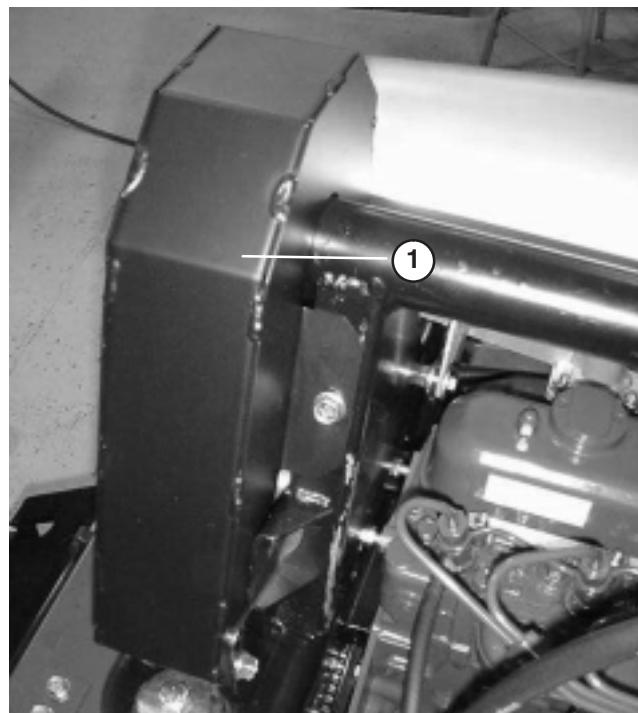

Figure 55
2. Remove capscrews (5) securing fan belt guard and remove guard (Fig. 55).
5. Install fan belt guard and secure with capscrews (Fig. 55). Close and latch hood.
4. Install fan belt guard and secure with capscrews (Fig. 55). Close and latch hood.